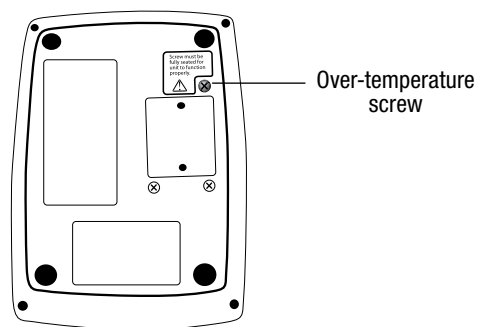

Fig. 3: Ranger irrigation fluid warming unit over-temperature screw
- Loosen the over-temperature screw on the bottom of the Ranger irrigation unit (see Fig. 3). Listen for a slight click as the microswitch opens. **Loosen ½ turn more.** This unit is now in over-temperature test mode, and the temperature output of the unit should begin to rise. When the display reads 48°C, verify that an audible alert sounds, the alert light illuminates, and the display alternately flashes “HI” and the plate temperature.